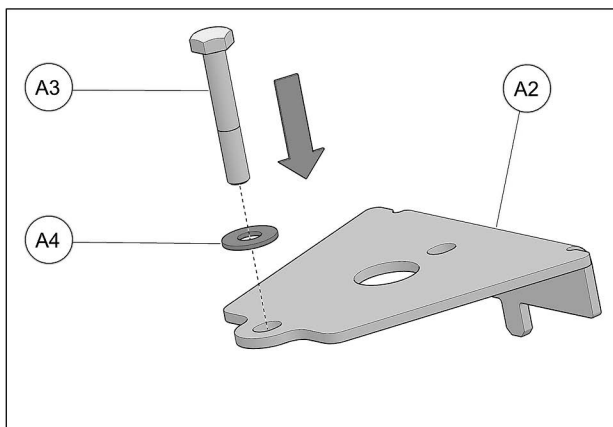

Fig. 21
10. Insert bolt (**A3**) & washer (**A4**) in hole at the front of cover plate (**A2**). See Fig. 21